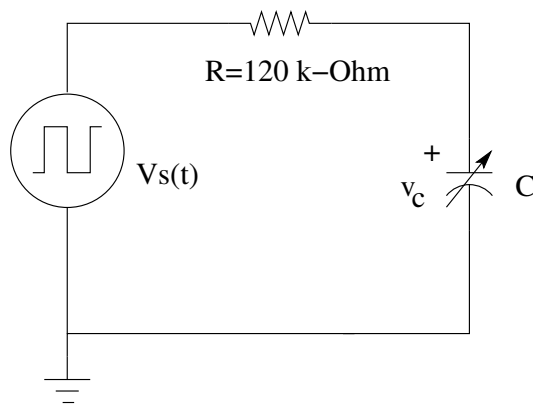

Figure 6.5.: Charge-Discharge circuit
1. Construct the circuit shown in figure 6.5.